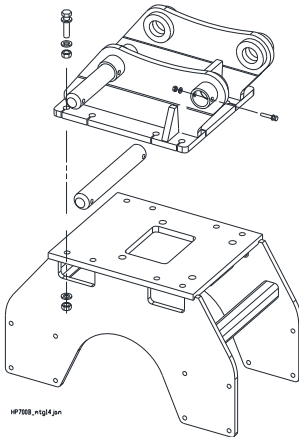

Fig. 6-1 Flat Top Frame and Mounting Bracket
- 'Flat-top' (Fig. 6-1)
The design of the Flat Top Frame is illustrated in Fig. 6-1.